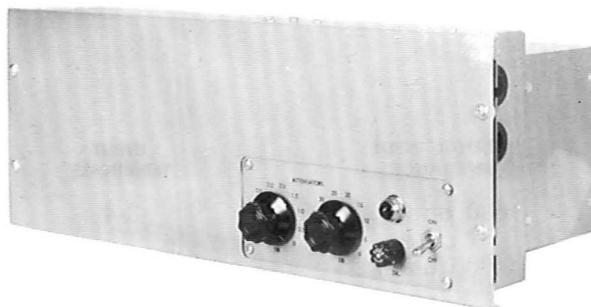

Fig. 1 – Front View
1.04 The KS-16575-L1 amplifier may be mounted in a 19-inch relay rack or cabinet. The amplifier is 19 inches wide, 7 inches deep (behind the mounting surface) and 7 inches high. The amplifier is shown in Figs. 1 and 2. On the front side of the chassis and extending through the cover panel are an "ON-OFF" power switch, a pilot light, the gain controls and fuse holder. The amplifier weighs 33 pounds. The amplifier is finished in light gray.